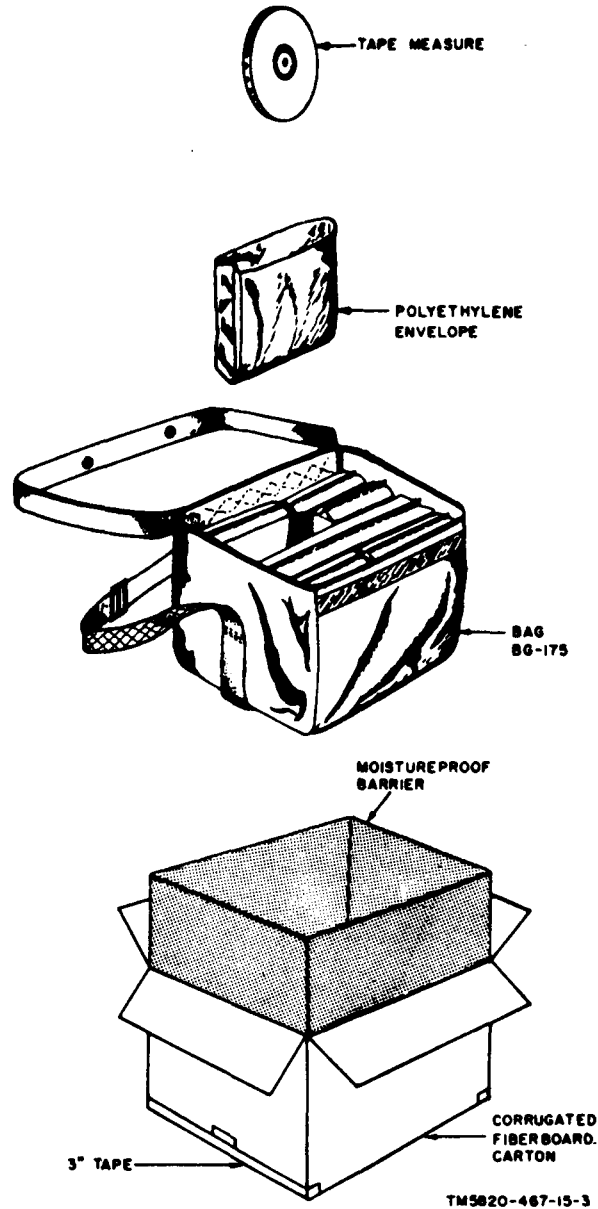

Figure 3. Typical packaging.
a. Packaging Data. When packed for shipment, the components of the antenna assembly are individually enclosed in polyethylene envelopes and packed in Bag BG-175. Bag BG-175 is enclosed in a moistureproof barrier and sealed in a corrugated fiberboard carton. Packed for shipment, the carton weighs 13 pounds and is 10 inches high, 9 inches deep, and 10 inches wide; its volume is 0.5 cubic feet. A typical shipping carton and its contents are shown in figure 3.
- (1) Open the carton. Do not cut open the carton, because the equipment may become damaged.
- (2) Open the moistureproof barrier and remove Bag BG-175.
- (3) Open Bag BG-175 and remove its contents.
- (4) Remove the components from the polyethylene envelopes.